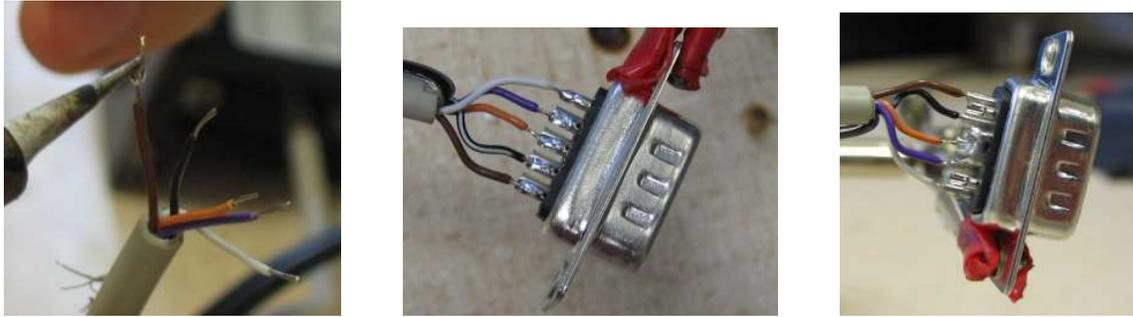

Figure 7: (Left) Tinning the brown wire in our example cable. (Center) Pins 1–5 soldered to the corresponding wires. (Right) Pins 7–8 jumpered for loopback.
12. Solder the exposed wires corresponding to cups 1-5 onto the male DB-9 end. For tips on soldering, check here <http://www.mediacollege.com/misc/solder/>. Twisting and then tinning the wires is best. (Note: "Tinning" is essentially "coating with solder." It prevents any bits of wire from sticking out.) If you are using heat shrink, wait a little while for the solder and wires to cool. Then, slide the tubing over the exposed wires and soldering cups, and use the heat gun to shrink the tubing around the wiring. Point the heat gun at the heat shrink, turn it on, and move the gun around to evenly heat the tubing up. The wrap will shrink and tighten around the area it's covering. Figure 7 (Center) shows what it should look like when completed. Note that the solder is still shiny - dull solder indicates a poor join, possibly caused by removing the heat too quickly.